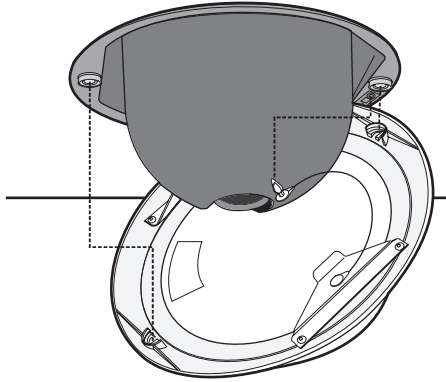

Figure 13. Installing the In-Ceiling Lower Dome
1. Snap the clip on the end of the trim ring leash into the hole on the lip of the back box (refer to Figure 13).